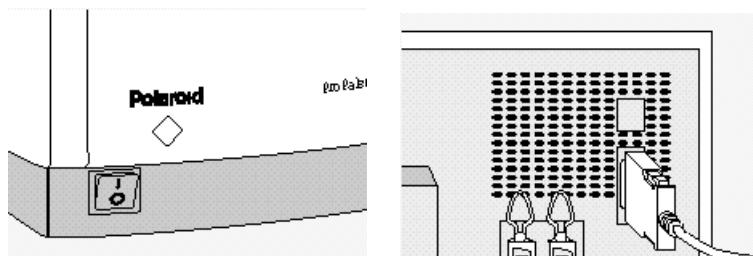

Figure 2-5. Connecting to the parallel port
1. Turn off the computer and make sure the recorder power switch is in the Off (0) position (see the left panel of Figure 2-5).
2. Connect one end of the parallel cable to the parallel port of the recorder by squeezing the two side tabs, pushing the connector into the port, then releasing the tabs (see the right panel of Figure 2-5).